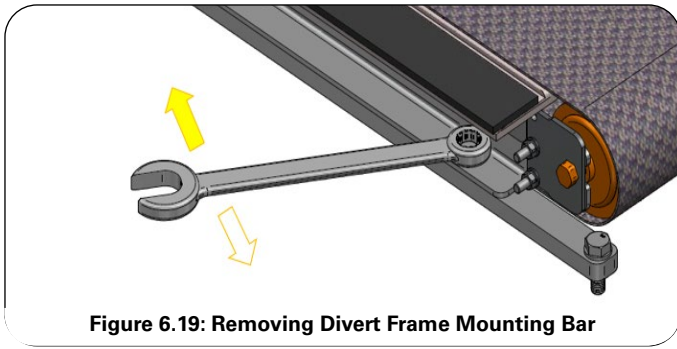

Figure 6.19: Removing Divert Frame Mounting Bar
- h. Remove the divert frame mounting bar on the side of the Divert. Assembly, opposite the side where the MDR wiring harness is located, by removing the three bolts securing the Attachment Bar (Figure 6.19).